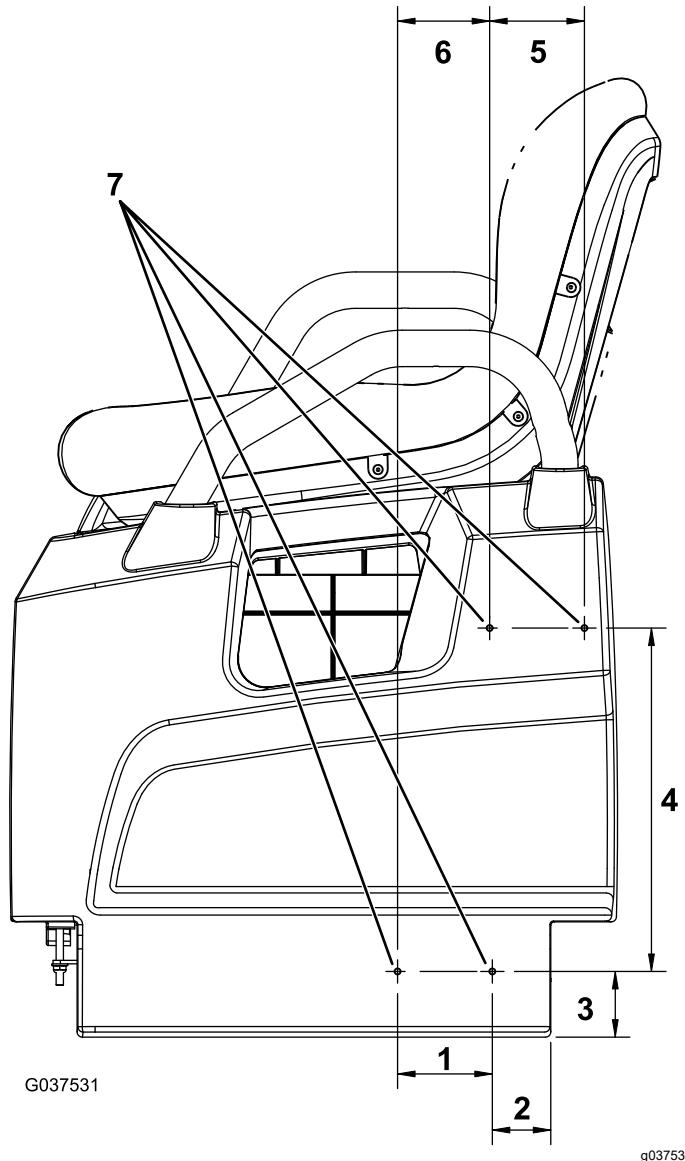

Figure 10
- On the left side of the machine, measure 51 mm (2 inches) from bottom, left of the seat base side, and mark this location (Figure 10).
- Measure 57 mm (2-1/4 inches) directly above the location and mark this location (Figure 10).
- Measure 83 mm (3-1/4 inches) from the left of the location marked in step 2, and mark this location (Figure 10).
- Measure 80 mm (3-3/16 inches) from the left of the location marked in step 3, then measure 299 mm (11-3/4 inches) directly above this location, and mark this location (Figure 10).
- Measure 83 mm (3-1/4 inches) from the right of the location marked in step 4, and mark this location (Figure 10).
- Drill a 5 mm (13/64 inch) hole at each of the 4 marked locations (Figure 10).